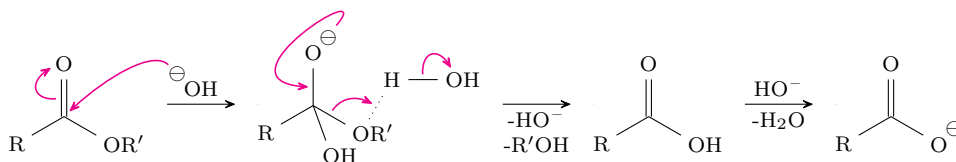

Figure 4.28: Ester hydrolysis mechanism (basic).
- The mechanism is analogous to Figure 4.28.^[7]
- The mechanism is also analogous to Figure 4.28, and we don't need base because HNR_2 is one!
- Conundrum: Like with basic ester hydrolysis (see Figure 4.28), NR_2^- is a poor leaving group.